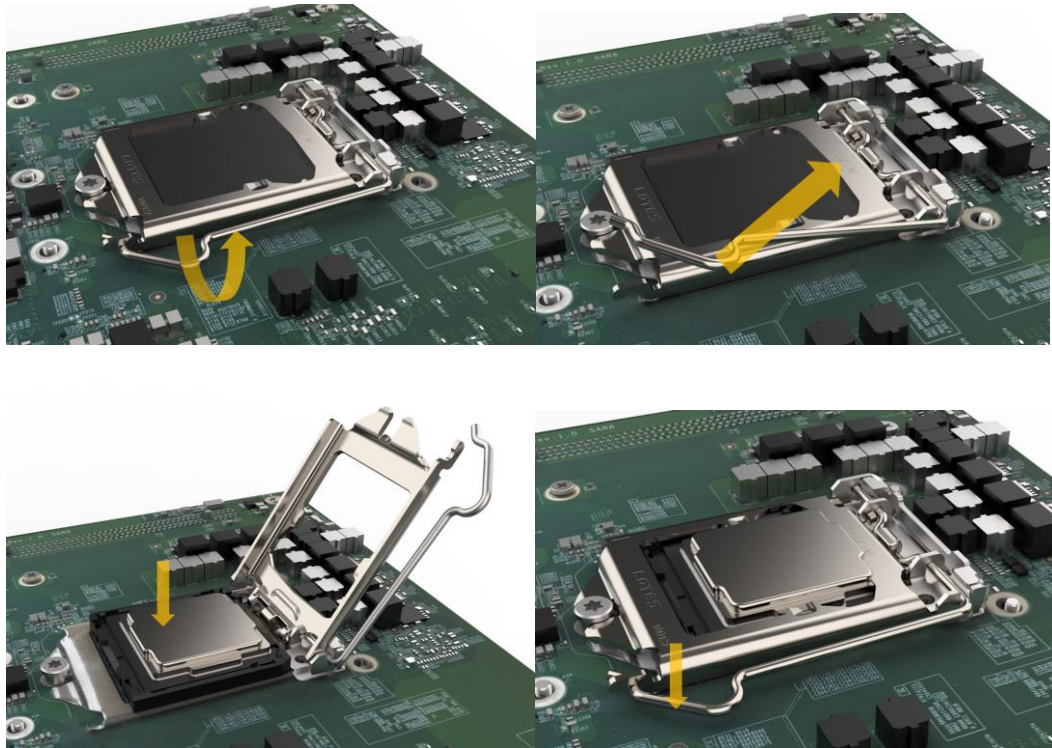

Figure 3-3: CPU Installation
Step 3: Pull the lever of the CPU buckle, remove the CPU protection cover, install the CPU at the notch, and fasten the lever down in the buckle (See Figure 3-3).